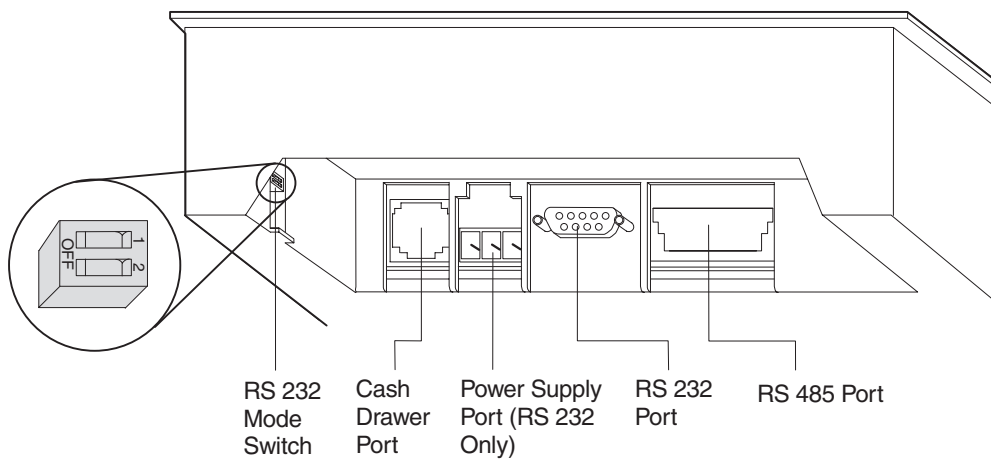

Figure 4. Cable Connectors and RS-232 Settings Switch for Thermal/Impact SureMark Printers. (View is from the bottom rear of the printer.)
- a. Check the settings on the RS-232 mode switch, which is near the rear cable connections. (See Figure 4.) See "RS-232 Communication Mode Selections" on page 23 for information on switch settings.
1. Power off the system and disconnect the RS-232 power supply (if connected). See Figure 4 on page 12.
Switch settings described in this section apply only when the printer is connected to the system with the RS-232 cable. The switch is accessible without removing the printer covers. (See Figure 4 on page 12 to see how to access the switch.)